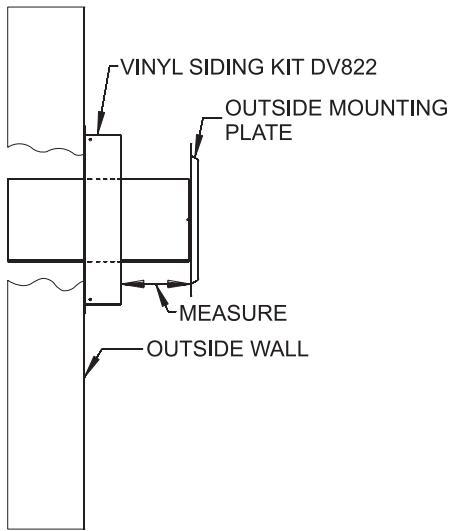

Figure 52
6. With the vinyl siding kit installed to wall (if necessary), insert the 6-5/8" (168 mm) diameter tube with outside mounting plate attached through hole in wall. Connect to collar on fireplace or rigid vent system. Measure between wall or vent cap extension and outside mounting plate. **See Figures 52 and 53.**